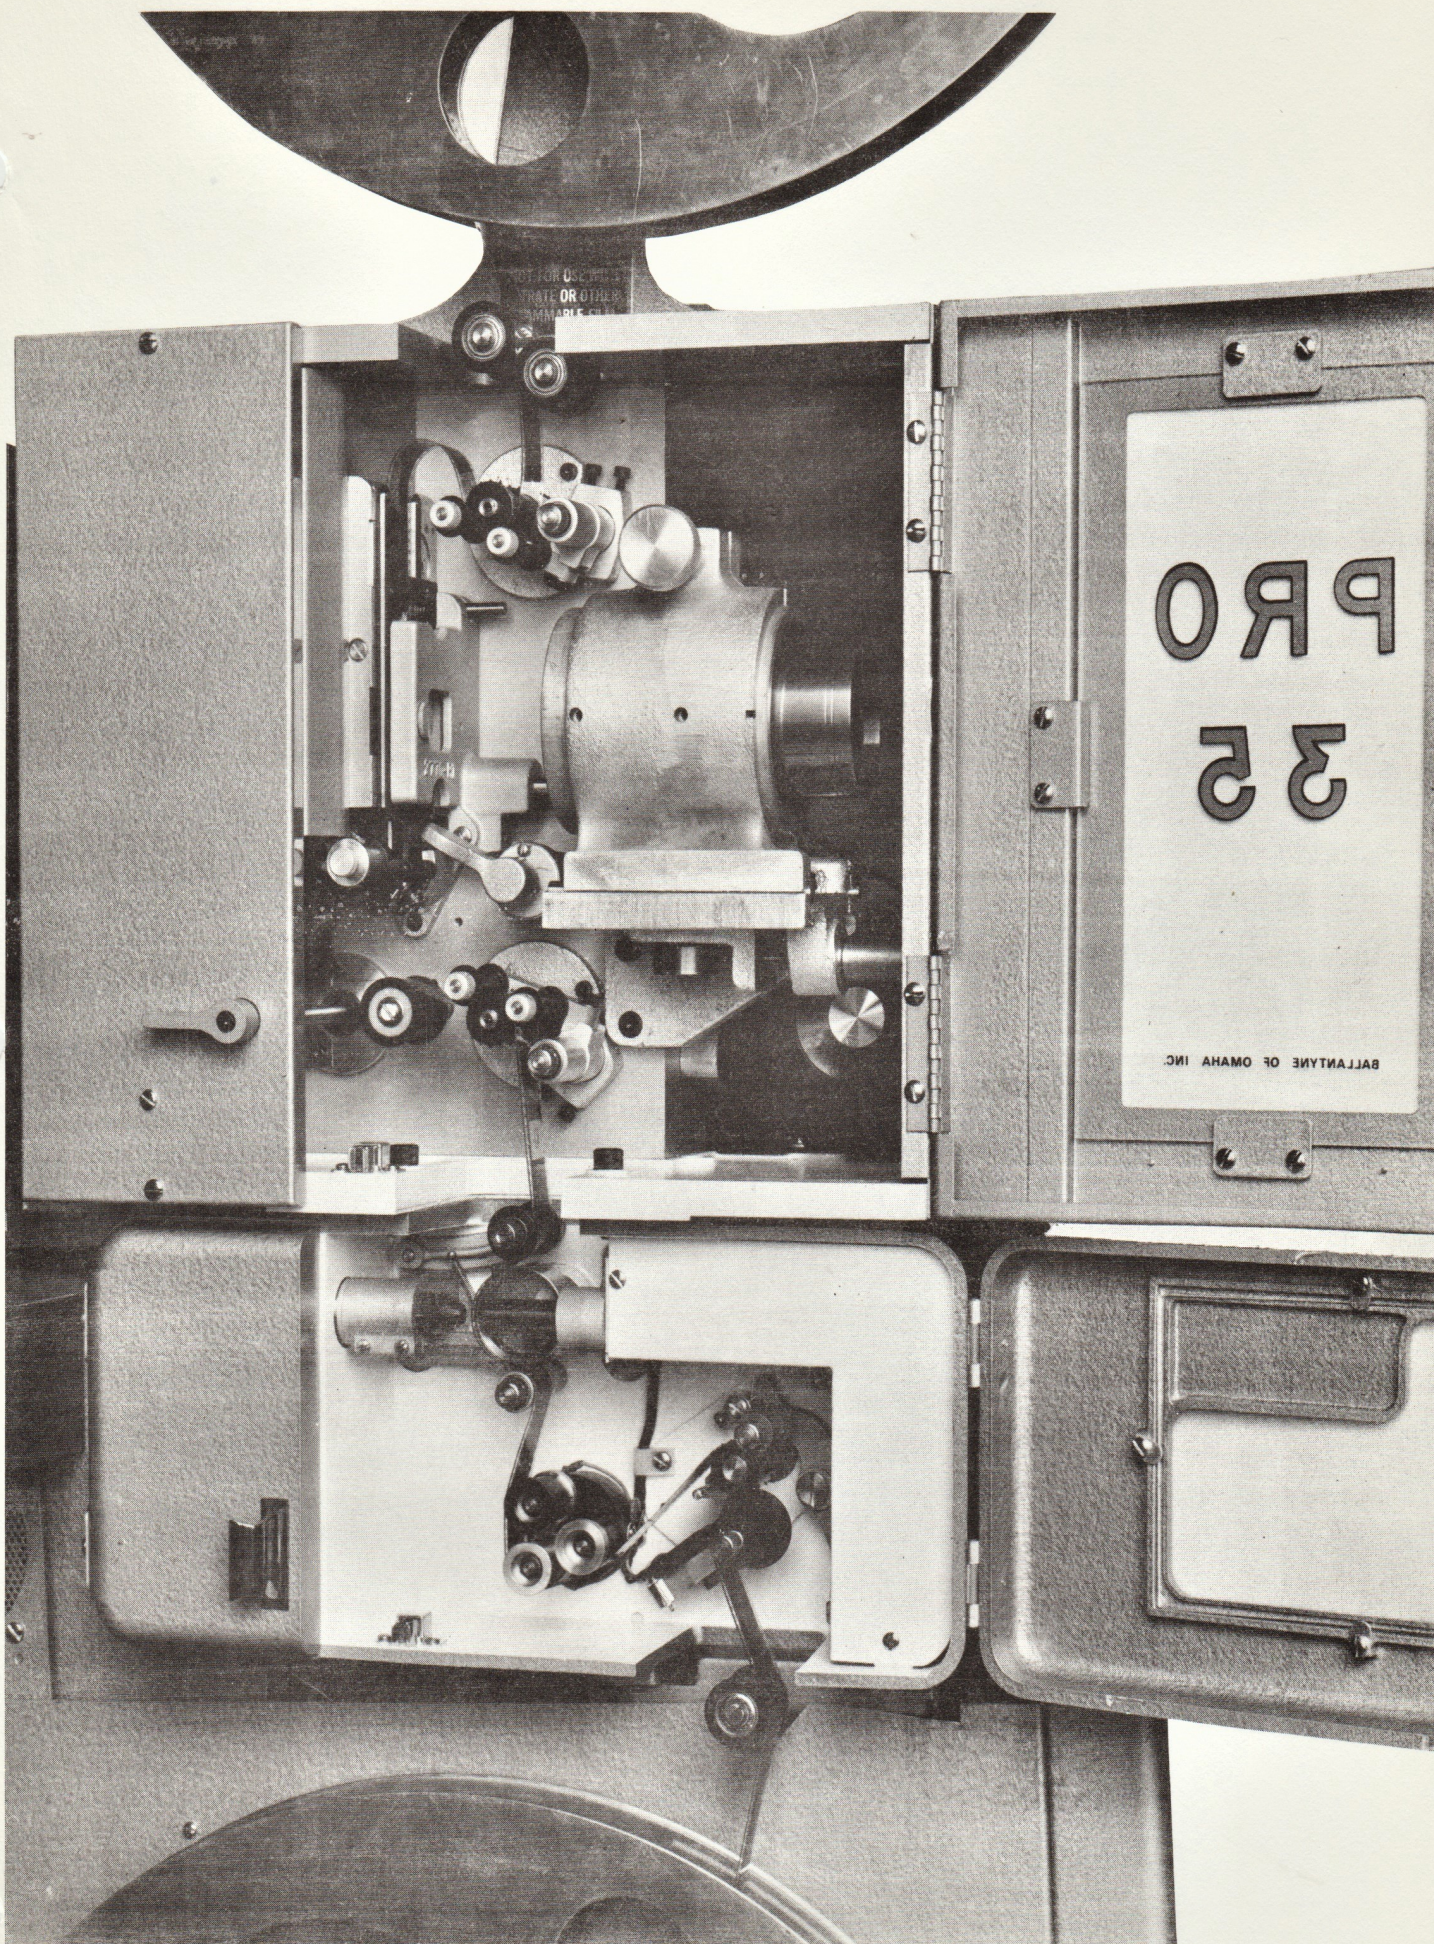

FIG. 2
1. On Ballantyne Model VII Soundhead, mount the Projector on top of the Soundhead. No mounting bars, pans or adaptors are necessary. On the film side of the Projector, line up the three holes in the base plate of the Projector with the three holes in the Soundhead and anchor with 3/8" Allen Screws supplied. (See Fig. 2)